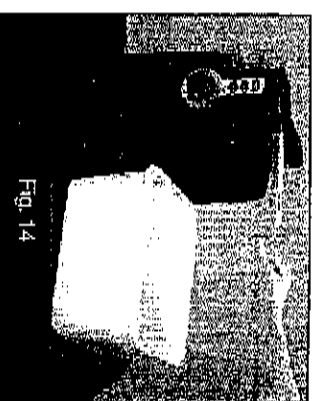

Fig. 14
- Rotate the faucet outward (Fig. 14).